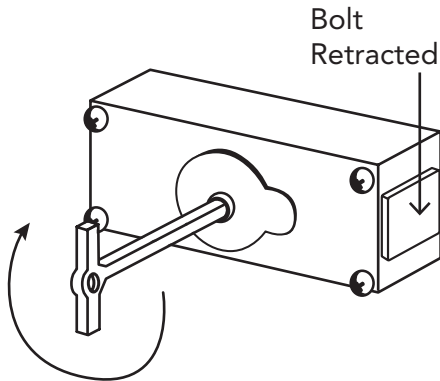

FIG. 4
4. Now turn the customer and guard keys toward the hinge so that the key plugs end up 180 degrees from the position they were in when the door was locked closed. (Figure 4)